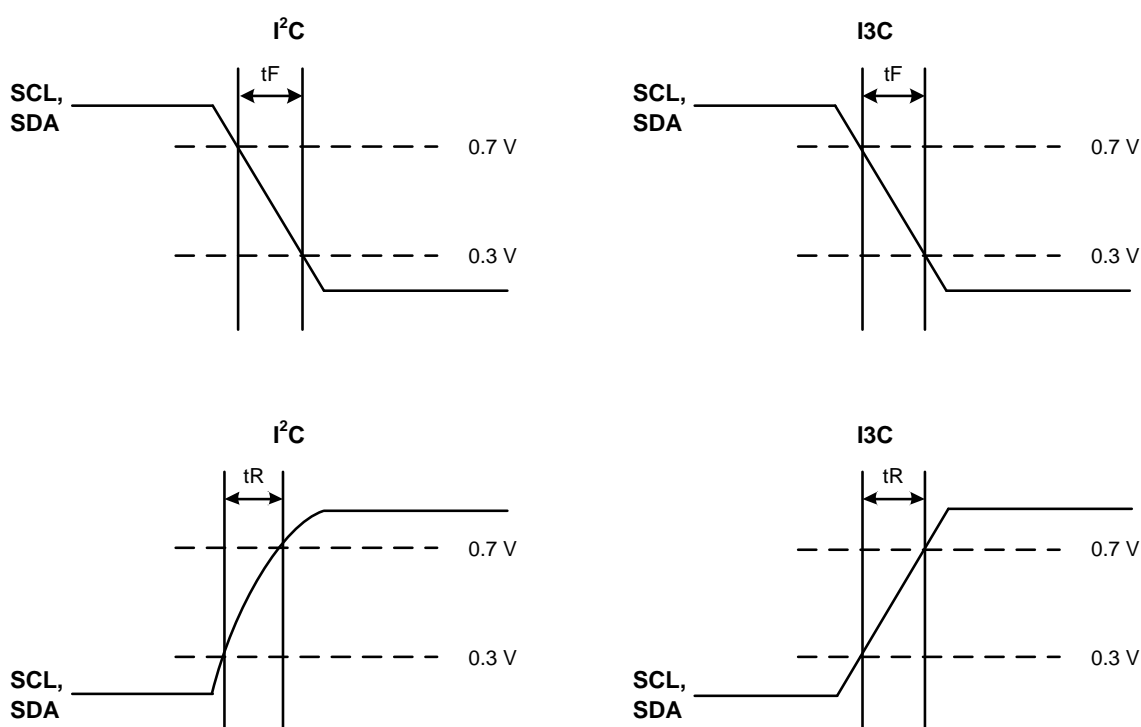

Figure 7 Rise and Fall Timing Parameter Definition
3. See Figure 7 for voltage threshold definition for rise and fall times.